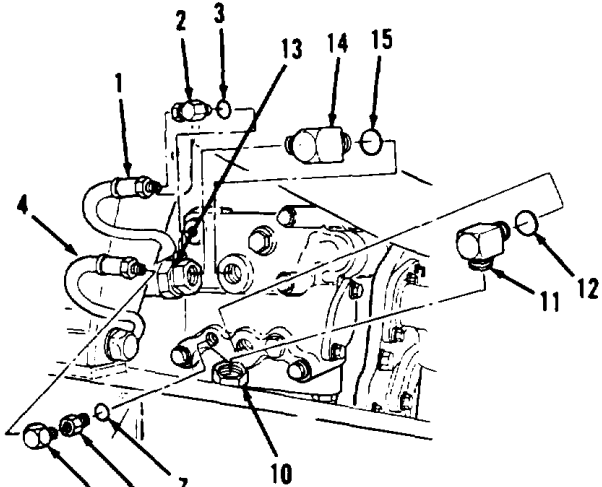

Figure 5-43.
- 1. Disconnect hose assembly (1, Figure 5-43) from rear, left side of transmission.
- 2. Remove elbow (2) and preformed packing (3). Discard preformed packing (3).
- 3. Disconnect hose assembly (4).
- 4. Remove elbow (5), adapter (6) and preformed packing (7). Discard preformed packing (7).
- 5. Disconnect hose assembly (10).
- 6. Remove elbow (11) and preformed packing (12). Discard preformed packing (12).
- 7. Disconnect hose assembly (13).
- 8. Remove elbow (14) and preformed packing (15). Discard preformed packing (15).